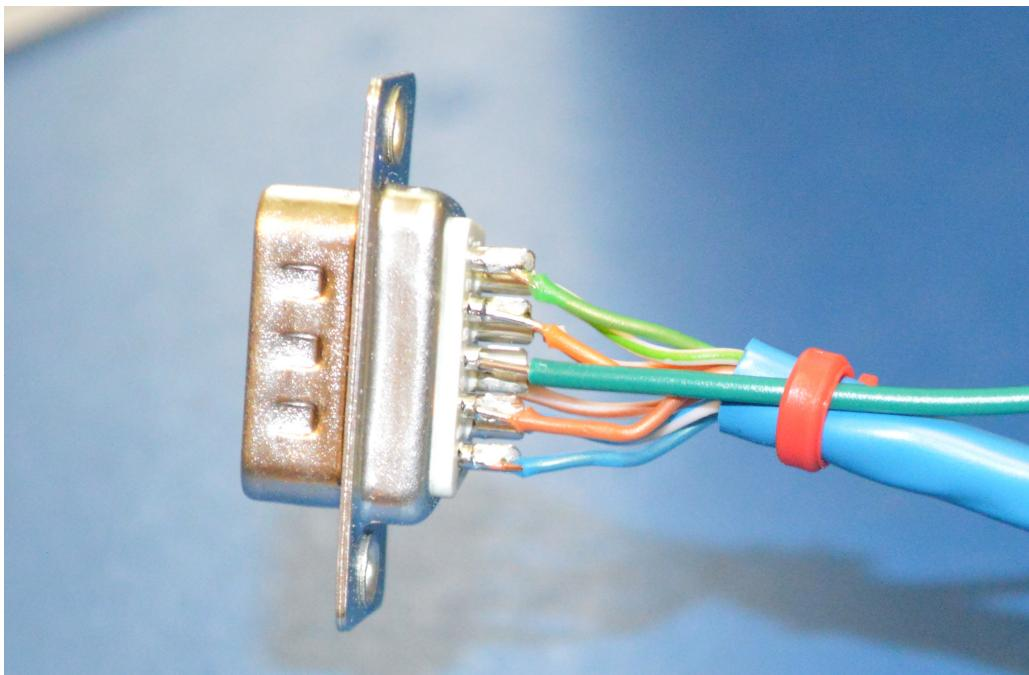

Figure 2.6: The Connector with Ground Wire
- Since CAT-5 cables are only 8 conductor, a separate ground/return wire needs to be added. As a note of caution, I find that the orange and brown pairs are difficult to distinguish. Be careful, otherwise you may wind up having to resolder the connector. See Figure 2.6.